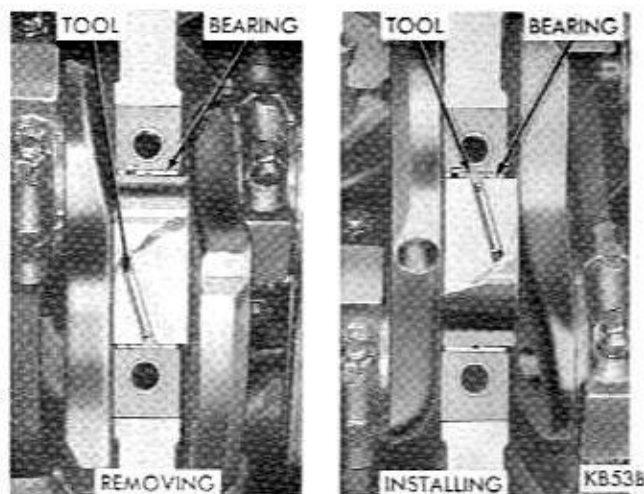

Fig. 41—Removing or Installing Upper Main Bearing
- (1) Remove oil pan and identify bearing caps before removal.
- (2) Remove bearing caps one at a time. Remove upper half of bearing by inserting Tool C-3059 (Fig. 41) in to oil hole of crankshaft.
- (3) Slowly rotate crankshaft clockwise, forcing out upper half of bearing shell.
- (1) Start bearing in place, and insert Tool C-3059 into oil hole of crankshaft (Fig. 41).